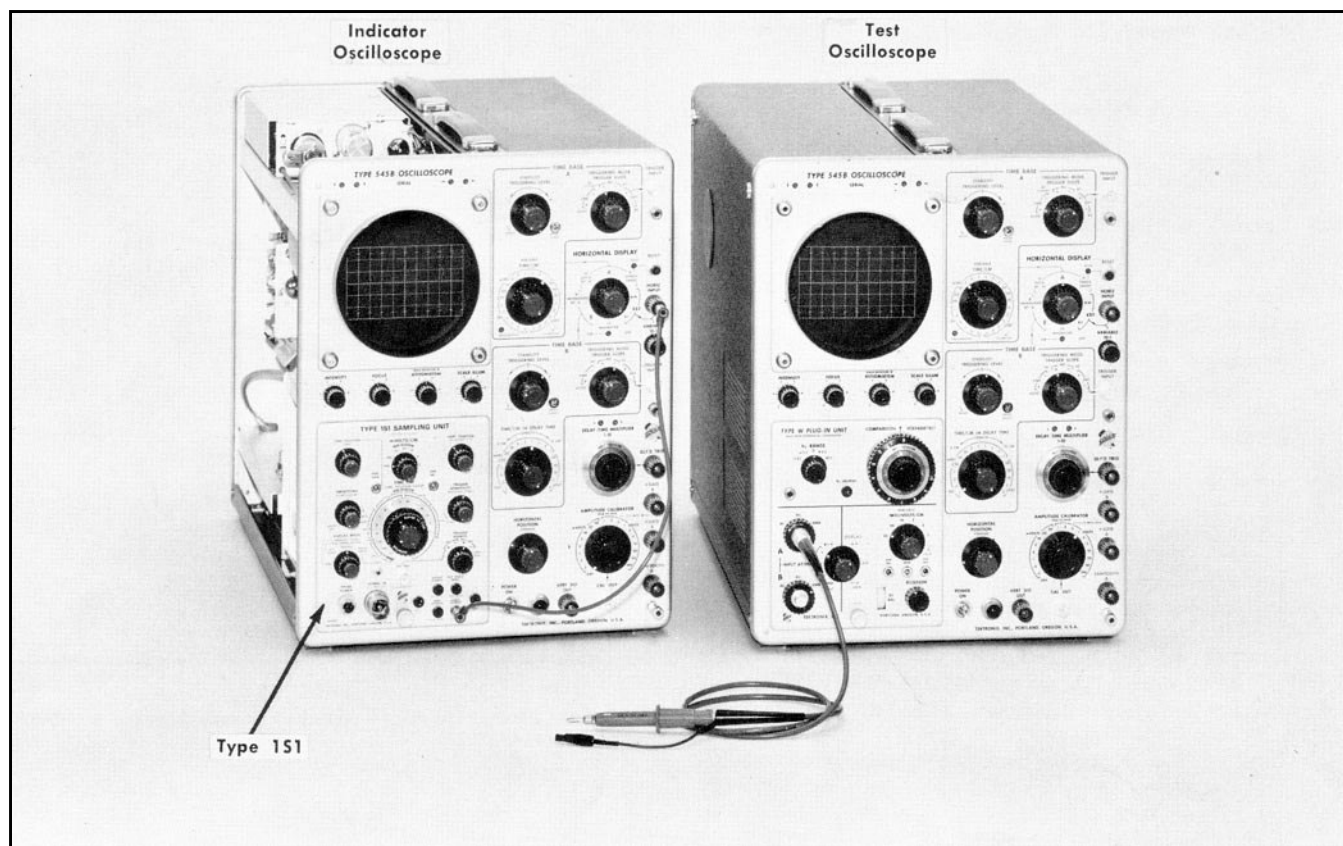

Fig. 5-26. Initial test equipment setup for steps 14 through 17.
- Test equipment setup is shown in Fig. 5-26.